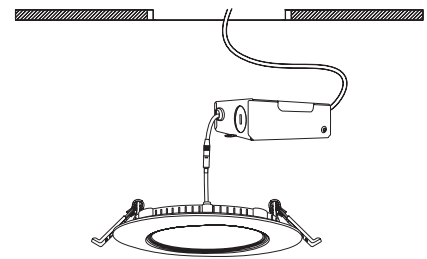

Fig. 4
8. Push spring-loaded clips on the fixture upwards and insert fixture base into the mounting hole. Release the clips and fixture will be pulled flush to the ceiling. (Fig. 4)